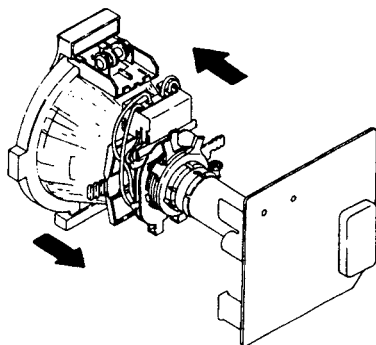

Fig. 3-1
3. Move the deflection yoke backward, and adjust with the purity control so that red is in the center and blue and green are at the sides, evenly. (Fig. 3-1 to 3-3)
4. Move the deflection yoke forward, and adjust so that the entire screen becomes red. (Fig. 3-1)